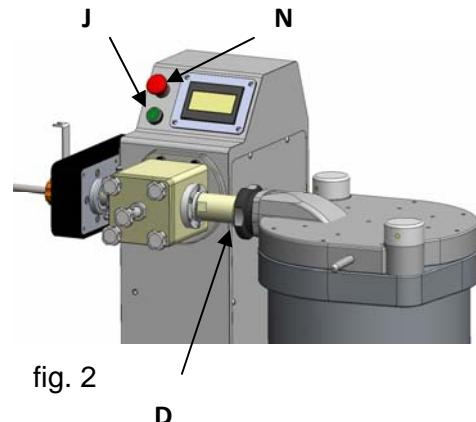
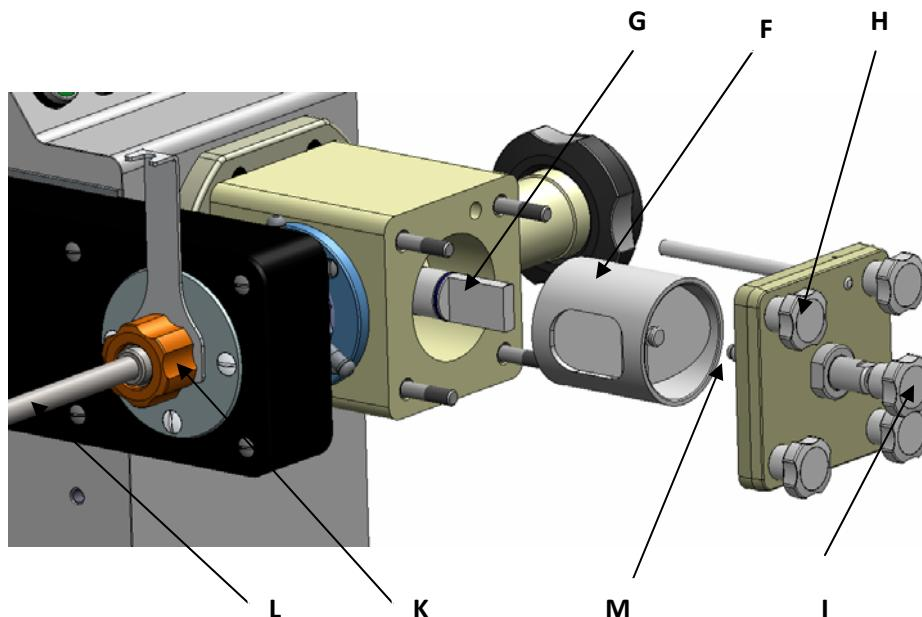

fig. 2
fig. 3
The joint between the Twist Linker and the stuffer/filler is through the nozzle nut of the Twist Linker (D) (see fig. 2).
Select the MANUAL mode on the touchscreen of the PR-360, press the knee lever of the sausage filler/stuffer and push the ON button (**J**) shown in figure 2, until product starts to appear through the nozzle. If no product appears, push the ON button again, repeating the process until the product appears. When using the twist linker PR-360, the sausage filler/stuffer needs to have the knee lever pressed all the time in order to feed the twist linker. We highly recommend to install a knee lever lock mechanism on your filler/stuffer. Adjust the required working pressure on your filler/stuffer. The higher the pressure, the higher the speed and production. We recommend to work between 50 and 100 bar pressure. Start at low pressure and adjust it accordingly once you have set the right portion size. The type of product and the casing used will determine the right working pressure. A stiff dough stuffed using a small nozzle will require more pressure than a soft dough using a bigger nozzle. (see fig. 3).